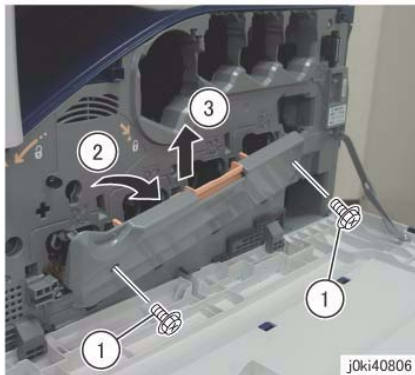

Figure 1 Remove the Drum Cover
4. Remove the Drum Cover. (Figure 1)
- b. Open the Drum Cover up to the position in Figure 1.